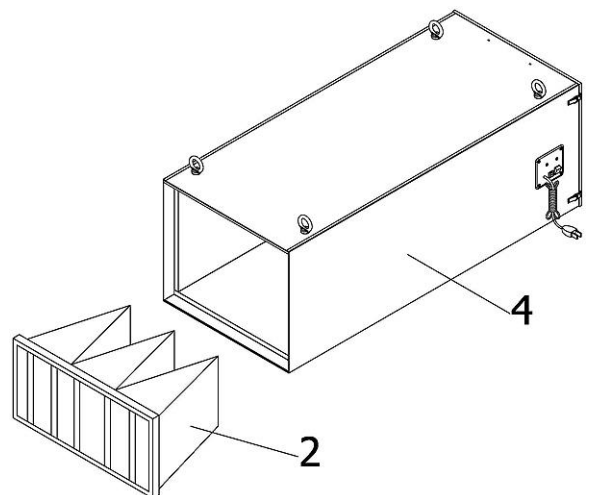

Fig.2
6. Installed the Inn-Bag Filter (NO.2) into the cabinet (NO.4). See FIG.2